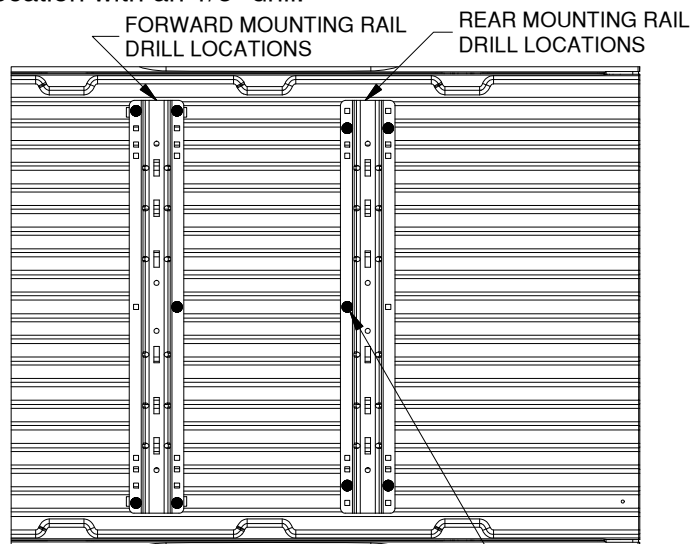

Figure A2: Detail view over bed, showing drill locations for the forward and rear bed rails.
2. **Mark hole locations:** While carefully ensuring the mounting rail does not move, use a center punch tool to mark the 5 drill locations on the rear rail. See figure A2 for hole marking locations for this installation (forward rails will install on a later step). Once all 5 rear rail locations are clearly marked, move the bed rail out of the way and drill each location with an 1/8" drill.
- 4. Drill forward mounting holes.** Using the same methods as used for the rear mounting rail, mark, drill, check, and enlarge the holes for the forward mounting rail. Refer to "DRILL REAR MOUNTING HOLES" section, steps 2 through 4, on a previous page. Notice that the hole locations are slightly different than the rear rail, see figure A2 (on the second page).